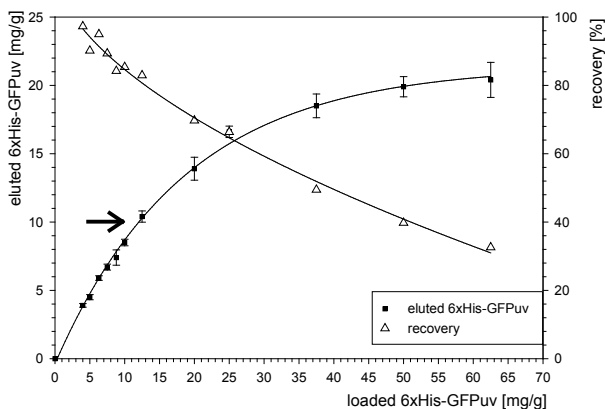
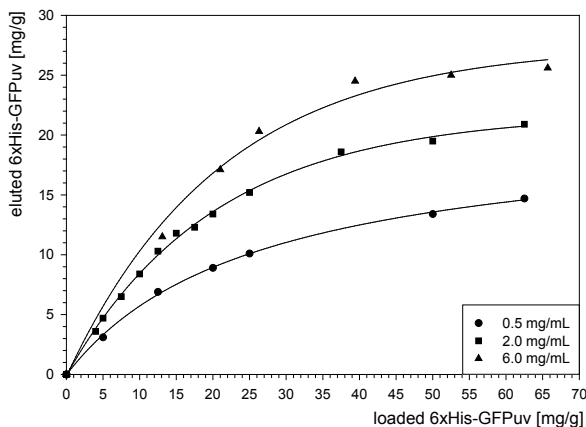

Figure 2: Binding behaviour of 6xHis-GFPuv to Protino® Ni-TED Resin
Figure 3: Binding behaviour of 6xHis-GFPuv to Protino® Ni-TED at different concentrations of the polyhistidine-tagged protein in the sample
The binding behaviour of any polyhistidine-tagged protein to Protino® Ni-TED can be examined by calculating the amount of protein that is eluted as a function of the amount of protein that has been loaded (see Figure 2). Please note that the resulting graph will vary in dependence on characteristics and concentration of the individual His-tag protein. The binding curve can be divided in three stages:
- 1. Stage of maximum recovery.** At this stage the loaded protein is bound to the resin nearly quantitatively and can be eluted nearly quantitatively, too (the binding curve is almost linear, see Figure 2, • eluted His-GFPuv).
Figure 2 shows a plot of the amount of eluted 6xHis-GFPuv against the amount of loaded 6xHis-GFPuv. The binding curve can be divided in three stages:
Under the above mentioned conditions the binding capacity of Protino® Ni-TED for 6xHis-GFPuv is approximately 10 mg protein per g of resin (see arrow, Figure 2). At this point the protein recovery is > 80%. Consequently the following amounts of 6xHis-GFPuv have to be loaded: For optimal recovery: load ~ 10 mg protein per 1 g of Protino® Ni-TED Resin, for maximum yield: load ~ 60 mg protein per 1 g of Protino® Ni-TED Resin.
Recovery rates and yield can be increased by using samples containing higher concentrated polyhistidine-tagged protein (6xHis-GFPuv). Figure 3 shows that the yield of purified polyhistidine-tagged protein is not only depending on the total amount of target protein loaded on the column (also see Figure 2) but also on its concentration in the lysate. Consequently the concentration of target protein in the sample should be as high as possible.